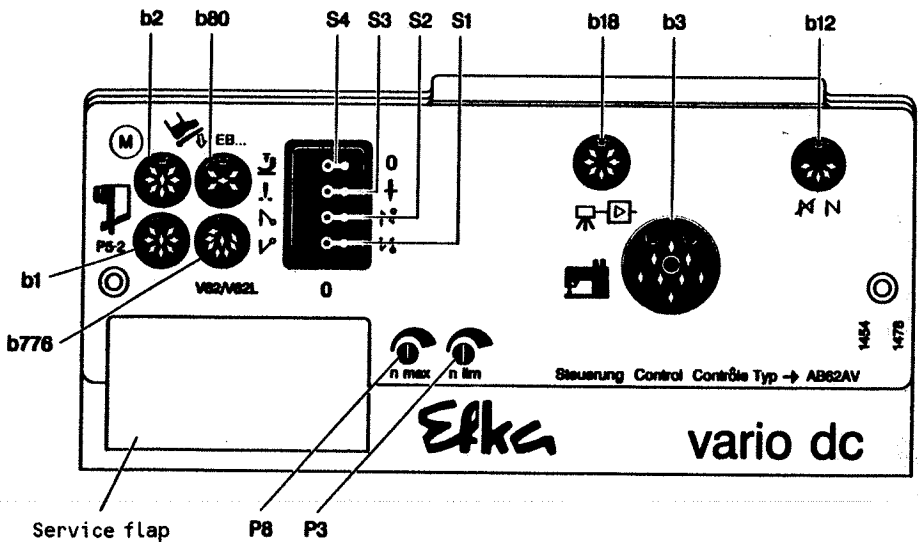

Figure 1
**Adjustments outside the service flap** (see fig. 1 page 7)